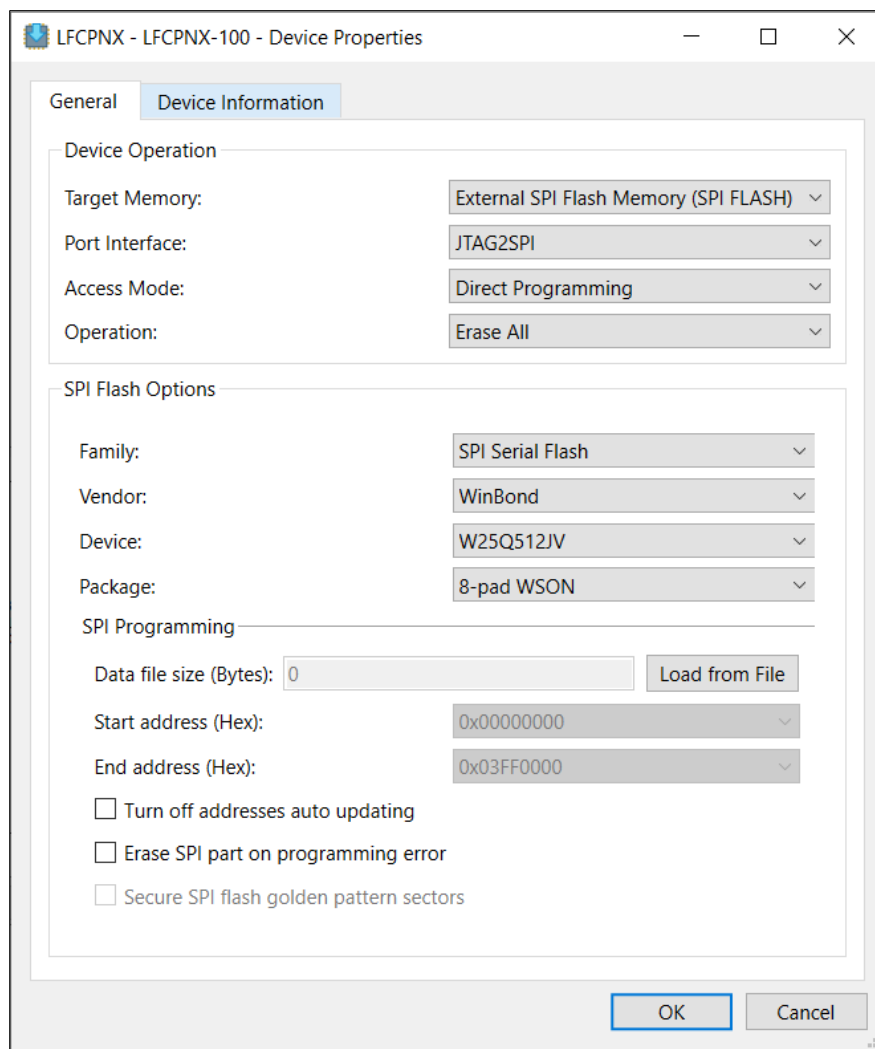
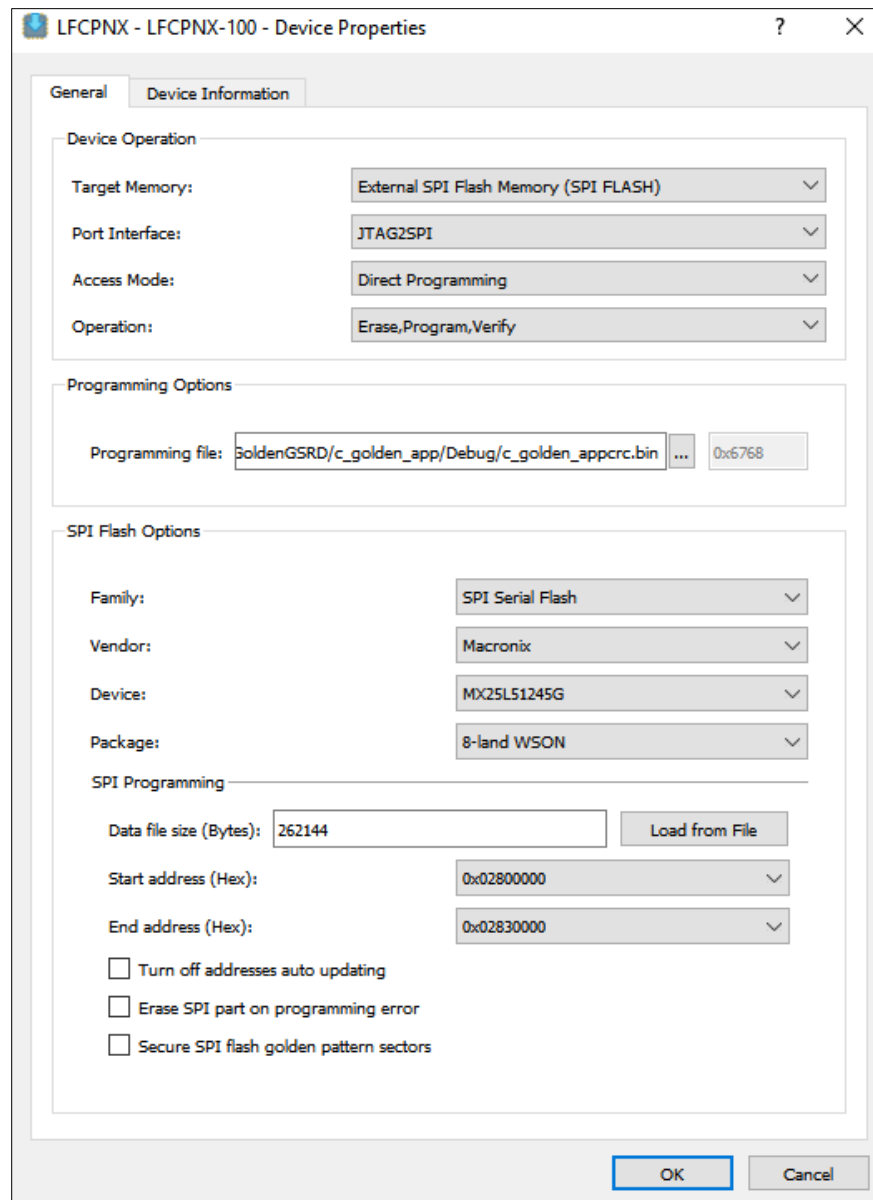

Figure 6.18. Device Properties to Program the Winbond SPI Flash
Figure 6.19. Device Properties to Program the Macronix SPI Flash
12. To program the **c_golden_appcrc_wb.bin** or **c_golden_appcrc_mcrx.bin** file into the SPI Flash, follow the settings as shown in Figure 6.18 or Figure 6.19.